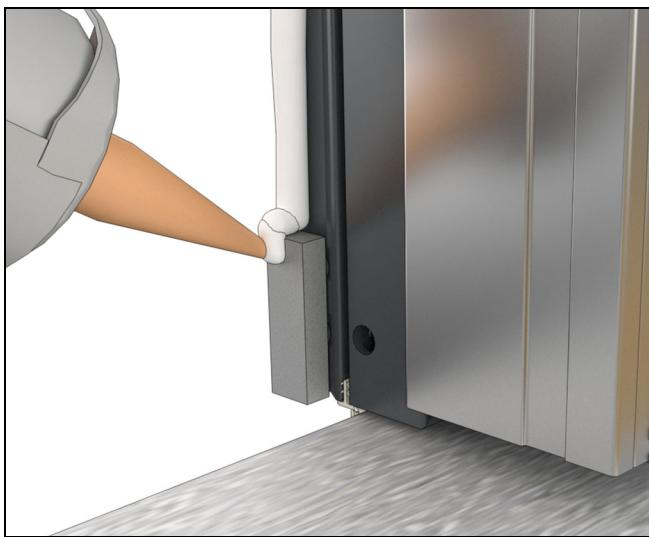

Figure 26
1. Apply a continuous 1/4" (6) bead of sealant along the length of the frame. The sealant must overlap the edge of the foam pads. See Figure 25 and Figure 26.